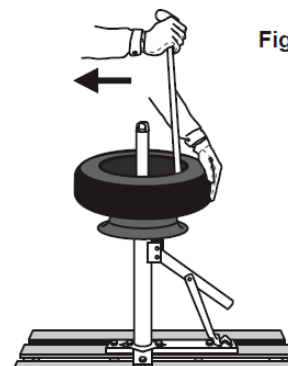

Figure 12
18. Once bead on outer side of tyre is separated from rim, pull tyre up with free hand and push Bar down so it is against bead on inner rim. See Figure 12.